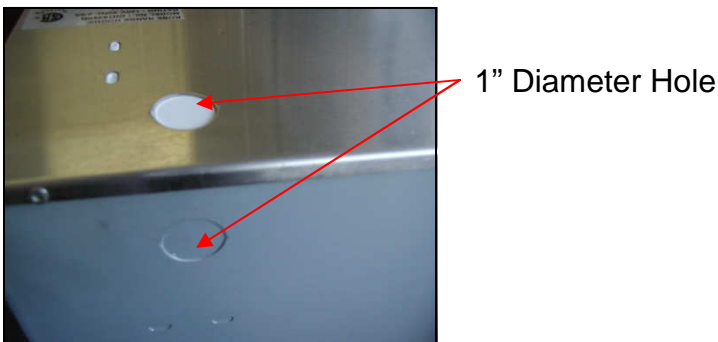

Figure 12
3. Remove the baffle filters and spacers. If necessary, arrange the electrical wires to run through the 1" diameter hole on the top or the rear of the hood. Refer to Figure 12.